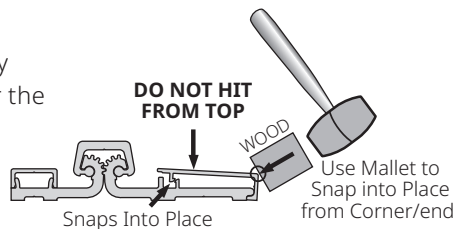

FIGURE 1
5. Install the six (6) #12-24 x $\frac{3}{4}$ " self drill/tapping screws in the six (6) $\frac{7}{32}$ " holes located in the door leaf portion of the hinge.
8. Open the door. Enlarge the $\frac{1}{4}$ " holes on the inside face of the door using a $\frac{3}{8}$ " dia. drill. Finish attaching door leaf portion of PemkoHinge® to the face of the door using the four (4) thru-bolts and shoulder bolts. Thru-bolts attach from inside face; shoulder bolts attach from the outside of face.
9. To complete the installation, secure the cover by hooking the edge away from hinge gears under the door leaf and then snap the other edge over using a rubber mallet on far side, working from top to bottom. Adjust so top of cover is flush with top of hinge (**Figure 1**).